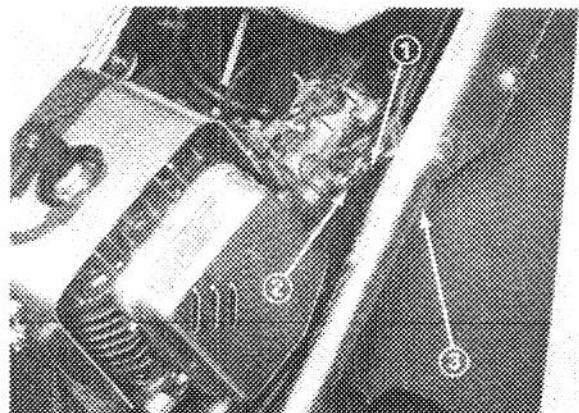

Figure 15
1. Power Adjusting Screw (Fig. 15) — Close screw by gently rotating it clockwise until a slight seating resistance is felt. Next, rotate power adjusting screw 7/8 of a turn counterclockwise.
2. Idle Adjusting Screw (Fig. 15) — Close screw by gently rotating it clockwise until a slight seating resistance is felt. Next, rotate idle adjusting screw 1 full turn — 360° — counterclockwise.